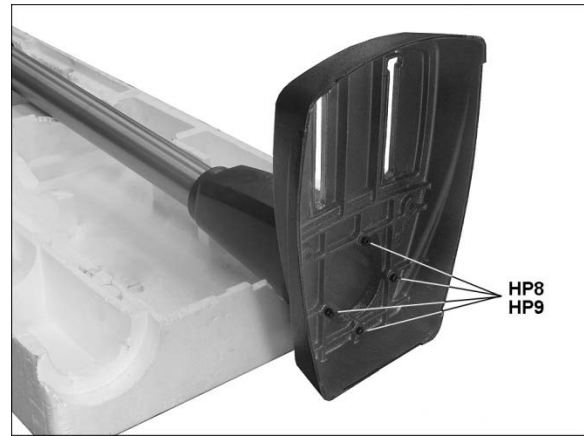

Figure 5
3. Lay the column assembly down on an elevated surface (such as the included polystyrene packaging). Attach base to column foot with four M8x50 socket head cap screws and four 8mm flat washers (HP8/HP9, Figure 5), using a 6mm hex key. NOTE: Align base and foot so that their edges are flush.